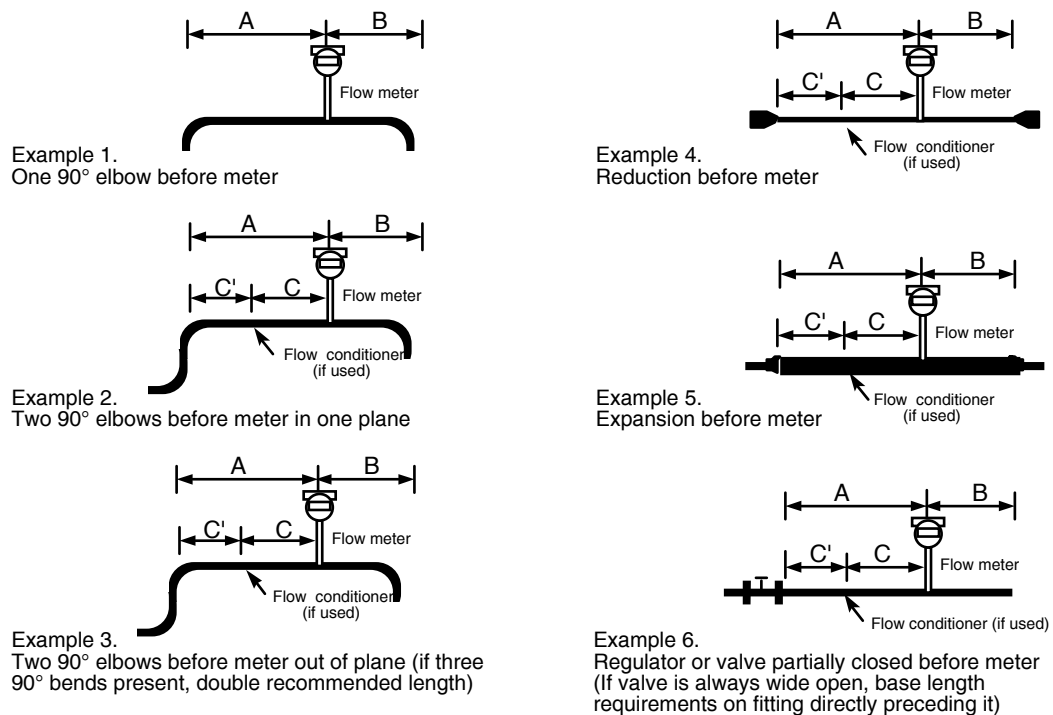

Figure 4 Recommended Pipe Length Requirements for Installation, Series DVH and DVE
2. Confirm that the installation site meets the minimum upstream and downstream pipe diameter requirements. See page 17 Figure 4.